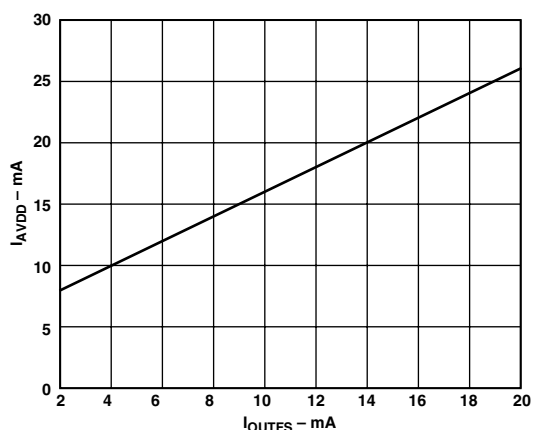

Figure 47. I_{AVDD} vs. I_{OUTFS}
The power dissipation, P_D , of the AD9762 is dependent on several factors which include: (1) AVDD and DVDD, the power supply voltages; (2) I_{OUTFS} , the full-scale current output; (3) f_{CLOCK} , the update rate; (4) and the reconstructed digital input waveform. The power dissipation is directly proportional to the analog supply current, I_{AVDD} , and the digital supply current, I_{DVDD} . I_{AVDD} is directly proportional to I_{OUTFS} as shown in Figure 47 and is insensitive to f_{CLOCK} .